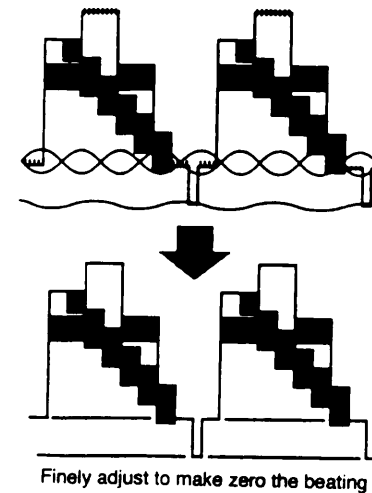

Fig 1.
- SSG output: 39.5 MHz (CW) \pm 5kHz
- 3: Connect oscilloscope to pin (7) of IC201.
- Adjustment error: 39.5 MHz \pm 25 kHz see fig. 1.